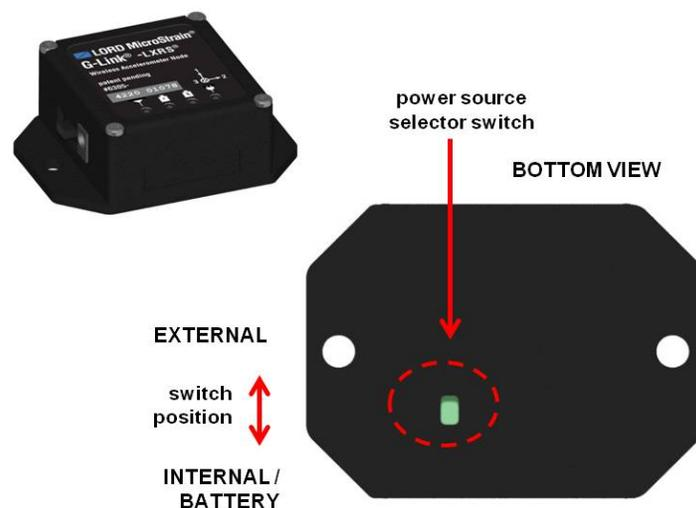

Figure 26 - Power Source Selection
2. Use a small flat-head screwdriver to push the recessed switch fully to the desired position, as indicated in Figure 26 - Power Source Selection. The figure shows the node configured for an internal power source.